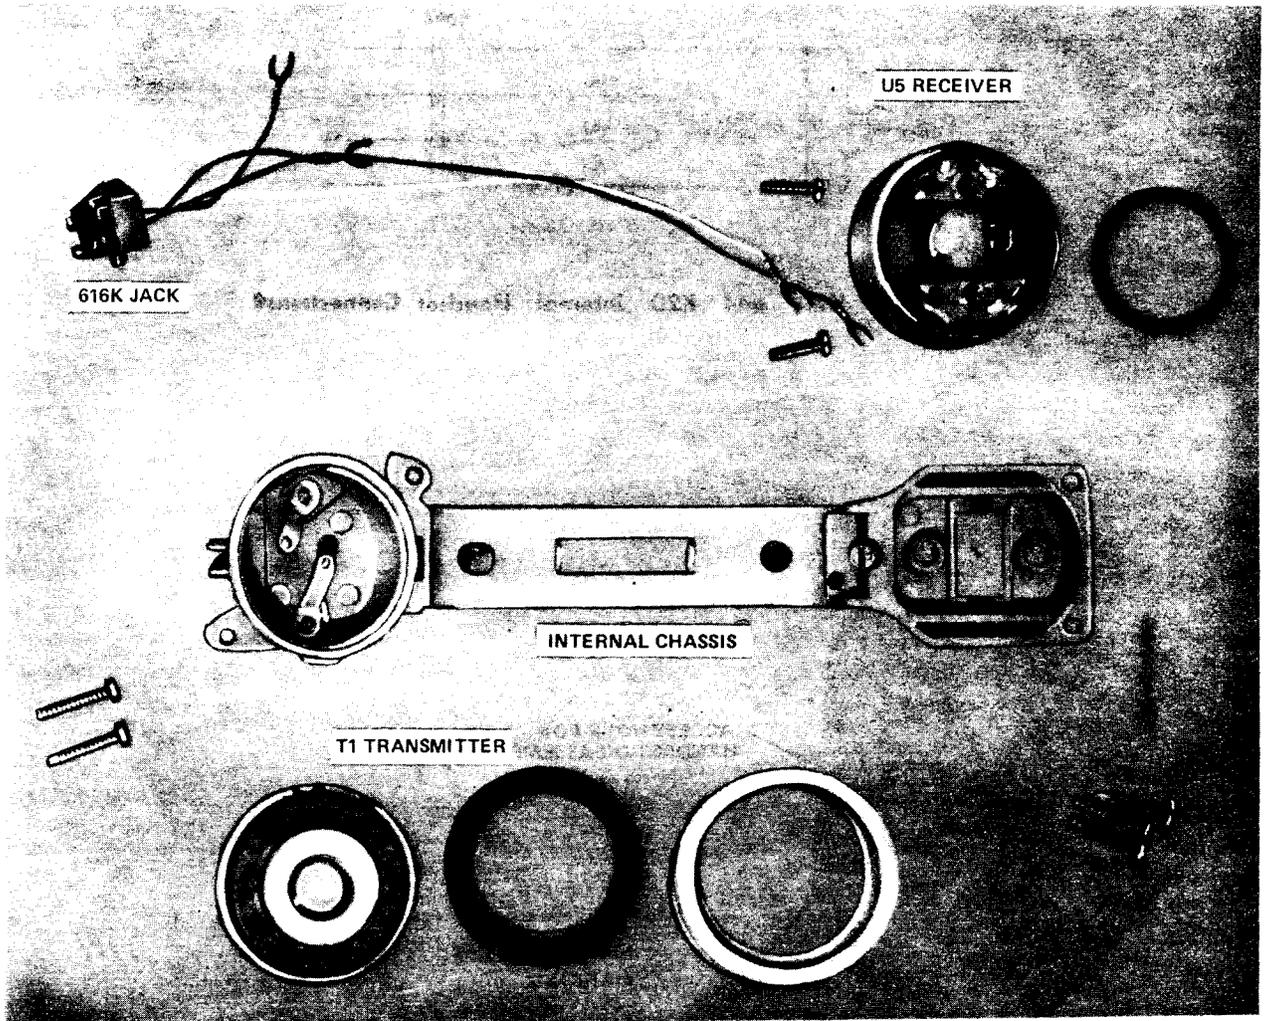

Fig. 3—K2A and K2C Modular Handset Breakdown of Inner Chassis
**1.02** This section is reissued to replace Fig. 5, 6, 7, 9; change Fig. 3, 4, 8, 10; and add Fig. 11, 12. Revision arrows are used to emphasize the more significant changes.